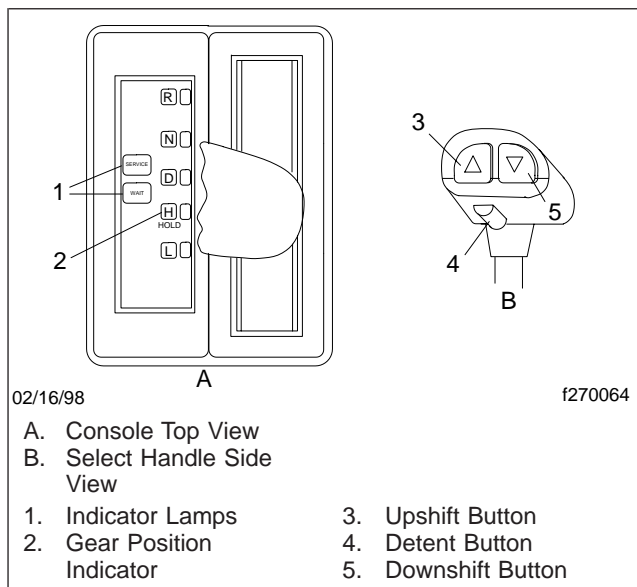

Fig. 8.14, Enhanced Driver Command Console (DCC)
- The Enhanced DCC (Fig. 8.14) has indicators for the three forward positions: Drive, Hold, and Low, plus Reverse and Neutral positions. Service and wait lamps are also located on the
2. On 10-speed models, select either LO or HI reverse by depressing either the downshift or upshift button (**Fig. 8.14**) on the gear select handle (if equipped).
NOTE: On vehicles equipped with upshift and downshift buttons (Fig. 8.14) on the gear select handle (enhanced DCC), you may select the starting gear. The gear you select is only active while the vehicle is running. The transmission resets to the default starting gear after you have shut off the engine. Depending on the vehicle's load, you may select gears 1 through 5 as the starting gear.